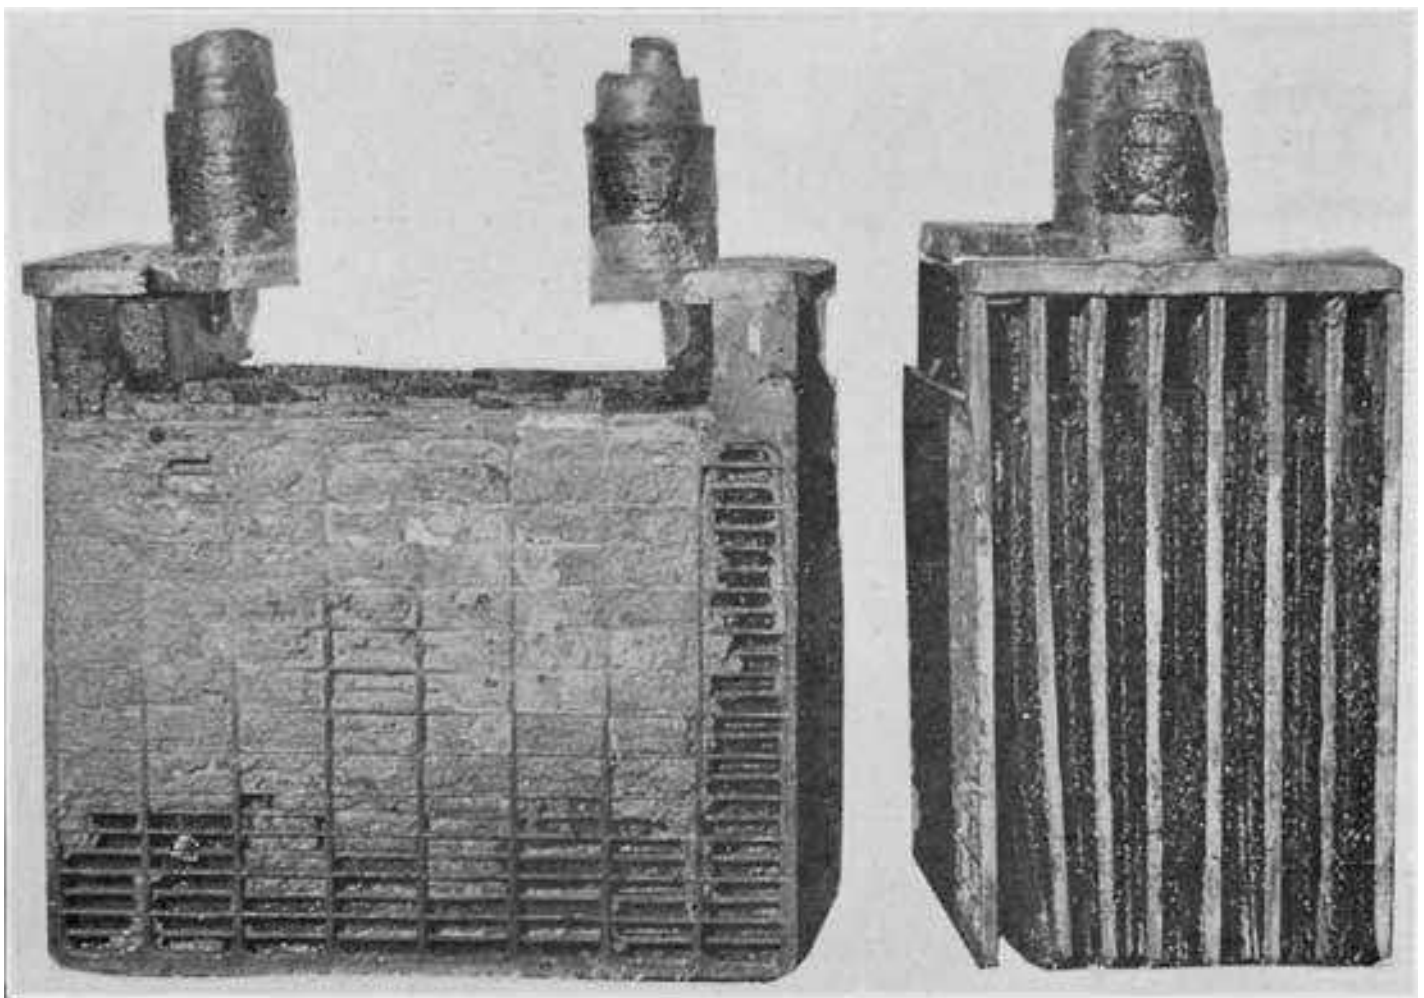

Fig. 211. Side and End View of Element from Traveling Salesman's Battery
**6. Batteries with high gravity or hot electrolyte** have burned and carbonized separators, turning them black and rotting them, the negative paste becomes granulated and is kept in a soft condition, and gradually drops from the grids on account of the jolting of the car on the road. Fig. 211 shows such a battery.